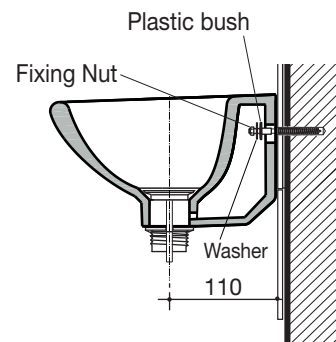

Fig 3
- 5- Locate basin/lavatory onto the Fixing/anchor screws on the wall. Insert plastic bushes, metal washers and fasten to wall with fixing nut to complete assembly as detailed in **Fig 3**.